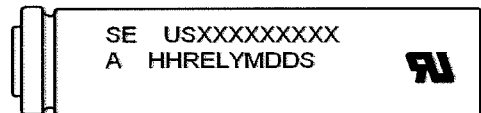

Fig.1
- 6.2 Trade Mark (Fig.1 : USXXXXXXXXXX) 登録機種名 (Fig.1 : USXXXXXXXXXX)
- 6.3 Plant (Fig.1 : A for plant code) 製造所 (Fig.1 右記図 : A)
- 6.4 Specification (Fig.1. : HH for Cell Type) 仕様 (Fig.1 : HH)
- 6.5 Lot Number (Fig.1 : YMDDS for Manufacturing Date of Cells)
ロット、セル製造年月日 (Fig.1 : YMDDS)
Lot Number (Fig.1 : YMDDS for Manufacturing Date of Cells)
- 6.6 UL Marking UL マーク (Fig.1 : Recognition Mark)